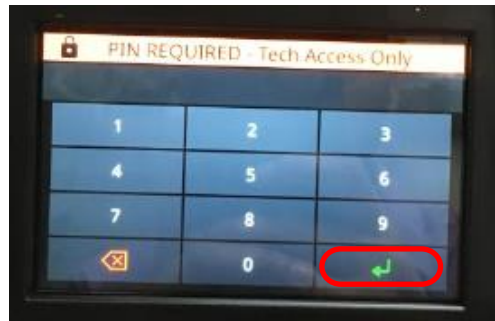

Figure E4: Pin Code Screen with Enter Circled.
3. Enter passcode 2186 and select enter. See Figure E4.
8. Enter passcode 2186. See Figure E4.